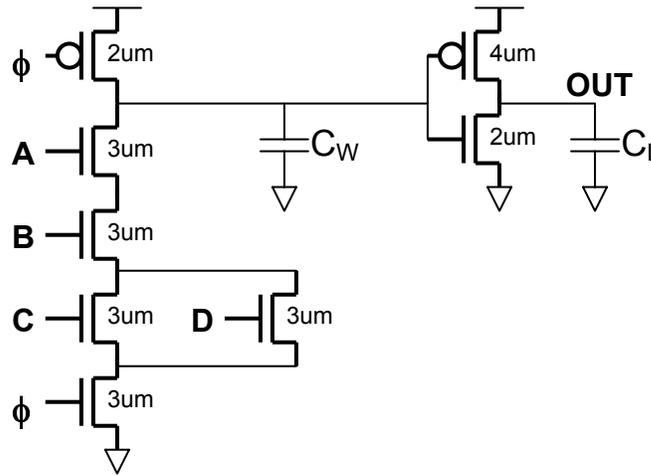
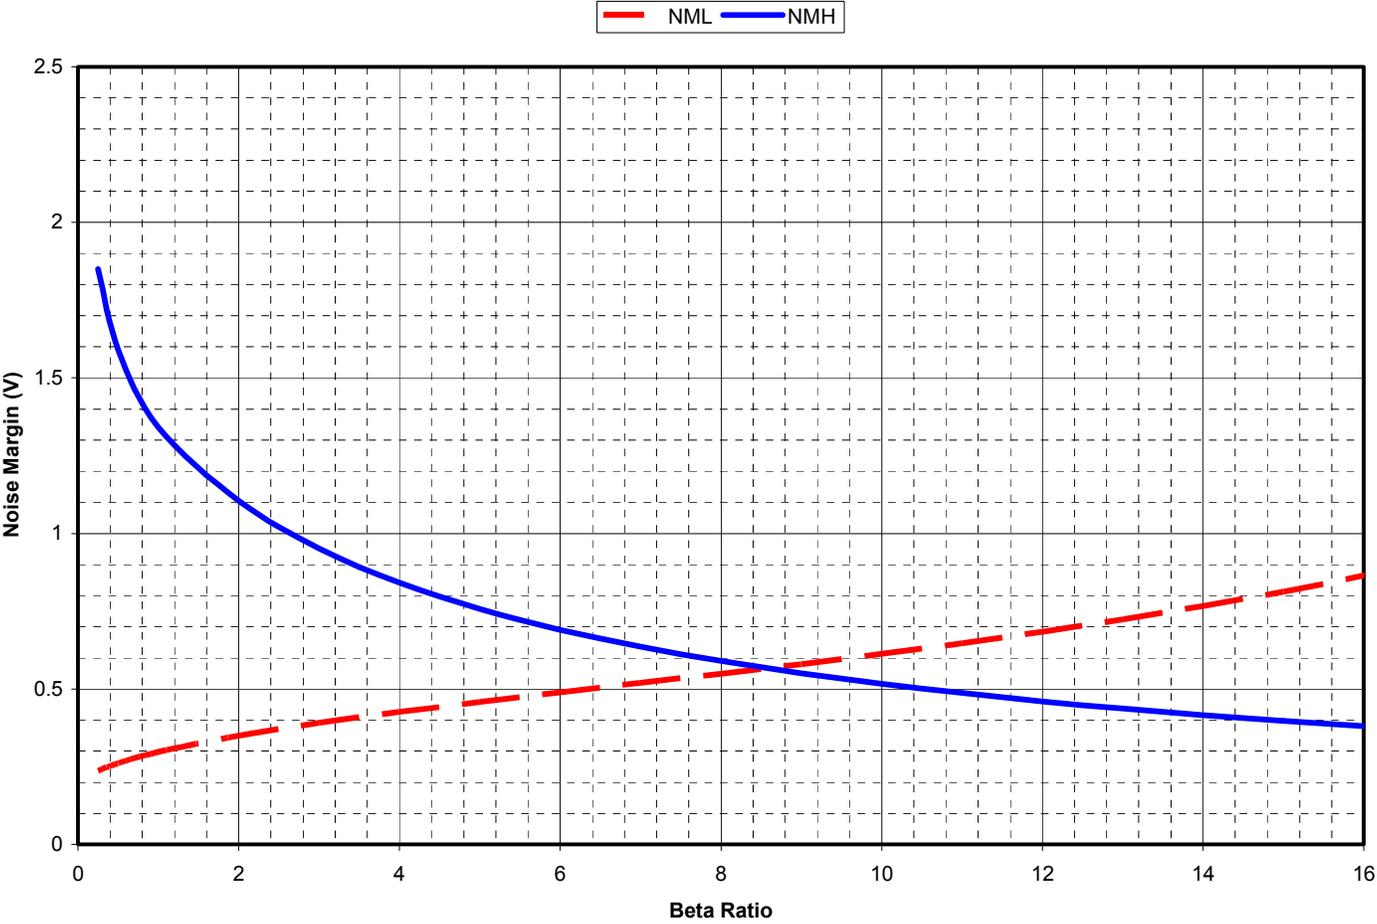

Figure 4.2
Figure 4.7
- Dynamic Logic:** Consider the domino gate below in Figure 4.2.
- Let the NMOS devices in the dynamic gate have $W=3\mu\text{m}$ and minimum channel length (sizes are notated on Figure 4.2). The inverter has $W_n=2\mu\text{m}$ and $W_p=4\mu\text{m}$ (also L_{min}). To calculate junction capacitances, assume that $C_{sb} = C_{db} = 0.6 \text{ fF}/\mu\text{m}$ of device width for both NMOS and PMOS devices. Calculate C_{gc} only at the input to the static CMOS inverter. Ignore overlap capacitances in this entire problem. Determine the reduction in voltage at the input to the inverter under worst-case charge sharing conditions.
- Besides reliability problems, what is the least desirable side-effect of charge sharing in dynamic circuits similar to the gate in Figure 4.2? Briefly explain.
- e. Using Figure 4.7 and results from D, what is a good β ratio for the static inverter in Figure 4.2?